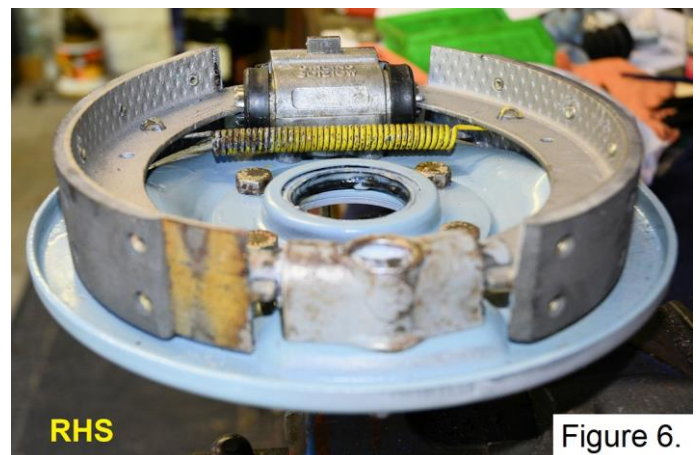

Figure 6.
Right: Figure 6. RHS backing plate assembly held firmly in vice with brake shoes installed. Note the leading shoe (right) and trailing shoe at left. The brake adjuster is in between.
6. The assembly should then be firmly clamped at two 3/8-in. backing plate mount nuts, in a bench vice. The bolts should be tight, to hold the backing plate firmly. Refer to *Figures 6, 7*.
8. For right hand side, use *Figure 6* as a guide for fitting the brake shoe springs. The yellow spring at wheel cylinder, green spring at adjuster housing end – both springs with clearance to the wheel cylinder body and the adjuster housing.